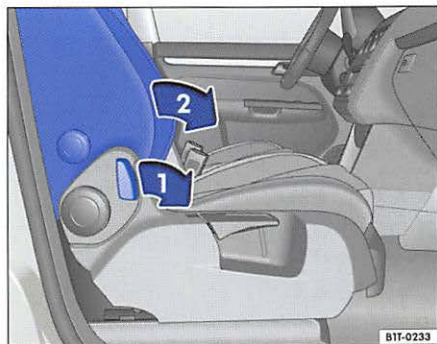

Fig. 42 Folding the front passenger seat backrest forward
- Press and hold the lever in the direction of the arrow ⇒ **fig. 42** ① to release the backrest of the front passenger seat.
- Fold the backrest of the front passenger seat to the horizontal position ② in the direction of the arrow. Make sure that the front passenger seat backrest latches securely into place.